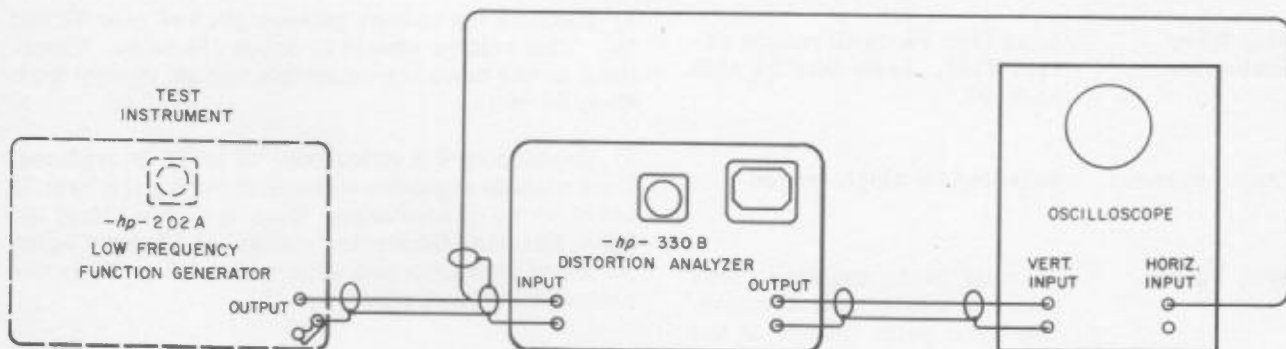

Figure 13-1. Minimum Distortion and Frequency Adjustment Instrumentation
- 2) Connect the equipment as shown in Figure 13-1.